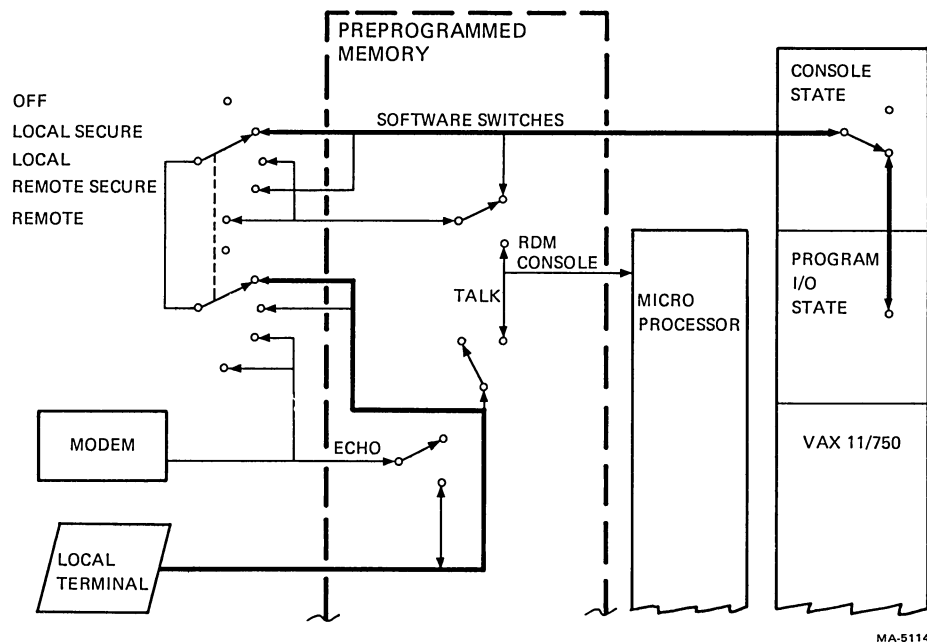

Figure 4-2 Local Secure Program I/O State
4.3.1.1 Software Switches – Software switches are instructions that change the RDM state and perform certain control functions. Each RDM state corresponds to a particular position of the software switches. Refer to Figures 4-2, 4-3, 4-4 and 4-5 for examples.